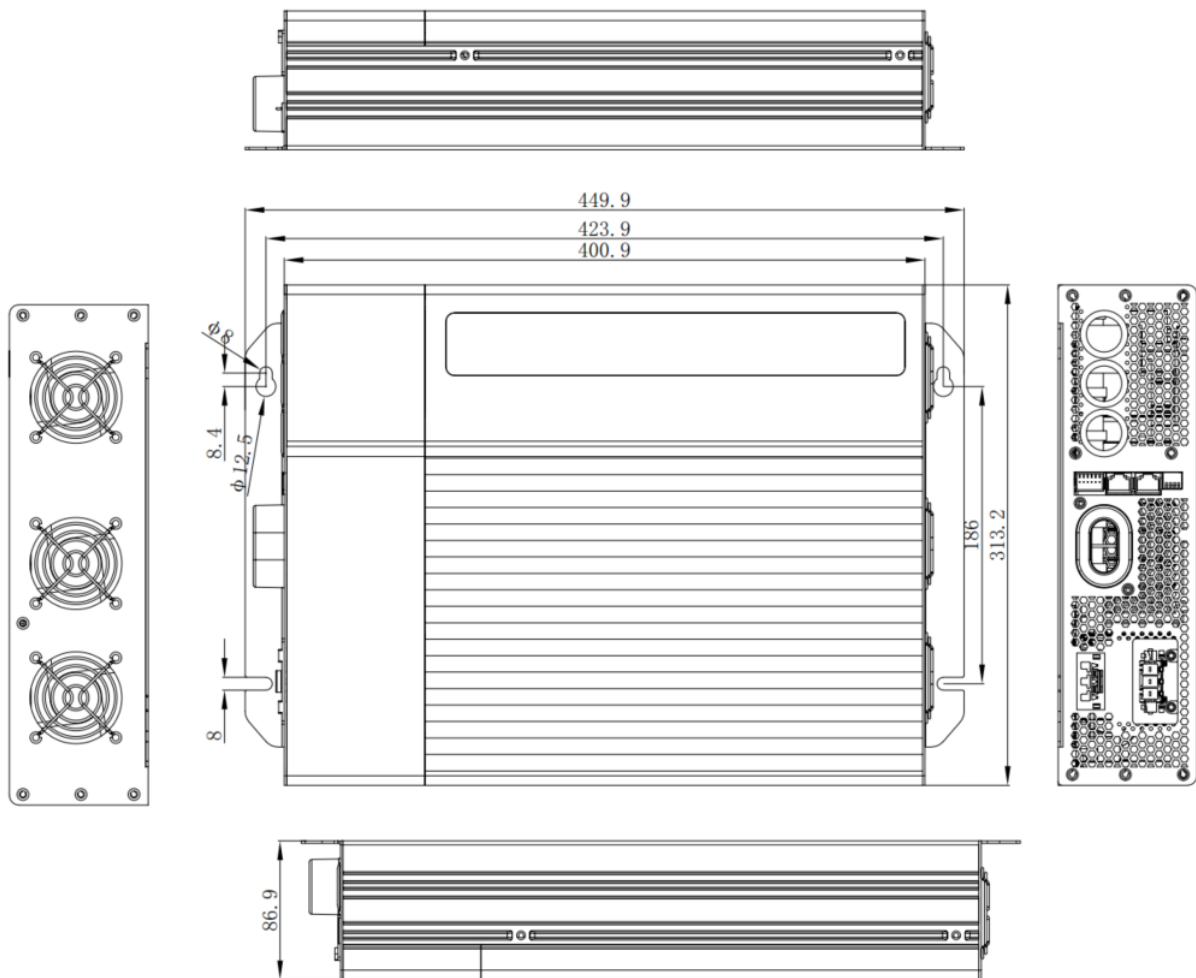

Figure 2-4 Dimension of PG4.0S
- PG inverter adopts a forced air cooling method for heat dissipation. To ensure good heat dissipation, sufficient wiring space is required, and it is recommended to have a certain number of heat dissipation holes in the installation space to ensure air convection. Please determine the installation space and hole positions of the host according to Figure 2-4. Leave 200mm or more space in front and behind the host, and 50mm or more space on both sides of the host to ensure heat dissipation, as shown in Figure 3-1.